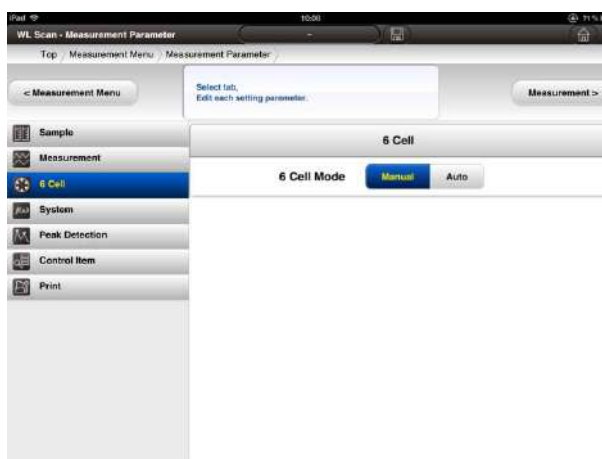

Fig. 4-131 6 cell Conditions Window
- (1) Press  [6 cell tab] in order to set the six cell conditions.
- (2) The 6 cell conditions window (Fig. 4-131) will be shown.